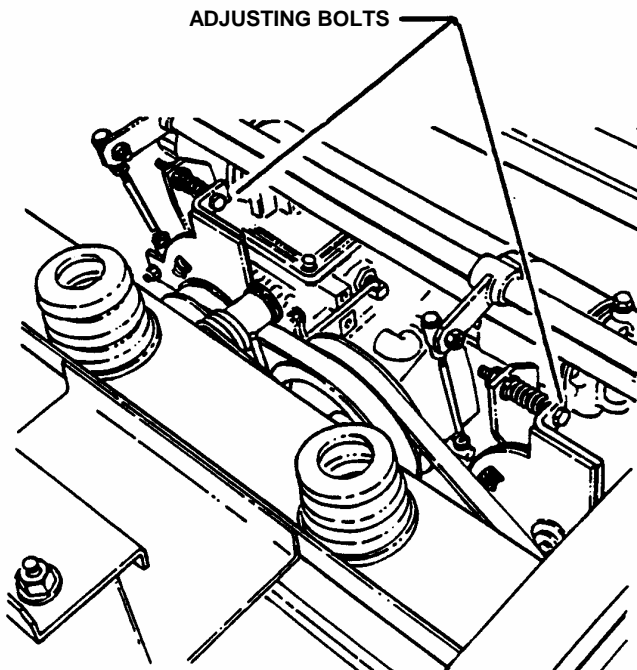

FIGURE 4.1
7. If wheel(s) are rotating, disconnect transmission control rods from cross shaft and turn adjusting bolts located on pump(s) clockwise, or counter-clockwise, until wheel(s) stop rotating. See Figure 4.1.